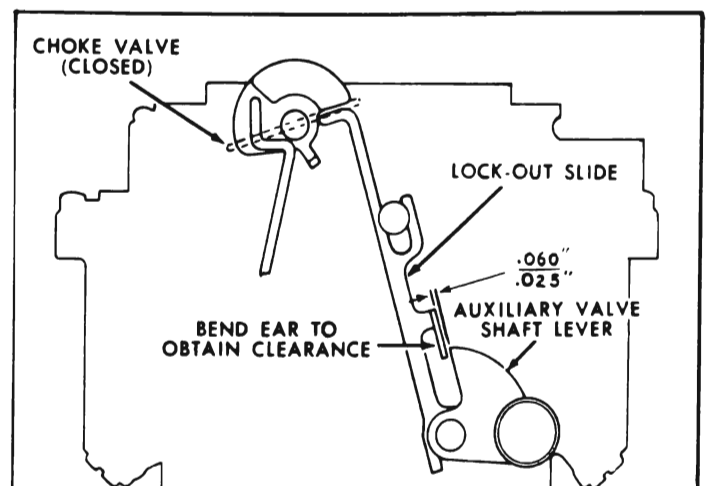

Figure 3-86—Lock-Out Slide Clearance With Choke Valve Closed
9. Fully close the choke and auxiliary throttle valves, which must permit the lock-out slide to move to the "down" position. The clearance between the ear on the slide and the auxiliary valve shaft lever should then be .025" to .060" when measured with a feeler gauge. Bend ear as required to obtain this clearance. See figure 3-86.